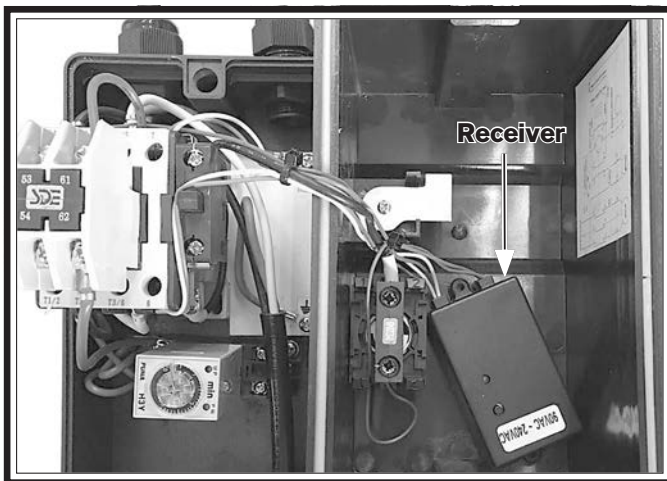

Figure 79. Location of receiver in switch box.
1. Remove switch cover to get a clear view of remote receiver (see **Figure 79**).